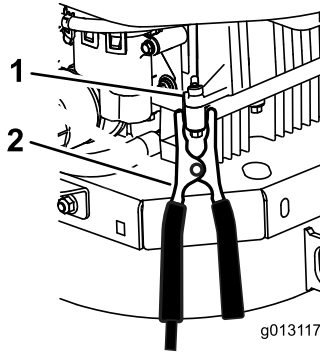

Figure 60
6. Make the final connection on the engine block of the stalled machine (not to the negative battery post), away from the battery, and stand back (Figure 60).